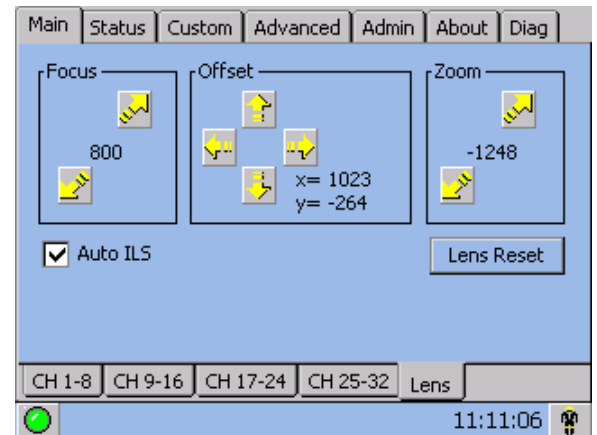

Figure 3-37 Intelligent Lens System
2. Using an framing test pattern (Framing.tga is recommended), adjust the **Offset** by clicking the up/down/left/right buttons on the **Main: Lens** menu (Figure 3-37) as necessary to display a square image on the screen. **NOTES: 1)** You can also hold the buttons down for continuous movement. **2)** For best optical performance, make sure to minimize keystone error by using offset more than aiming to center the image in off axis installations. **3)** For best results, avoid extreme tilts or offsets. Corner vignettes on a white test pattern indicates extreme offset that should be avoided using mechanical alignment.